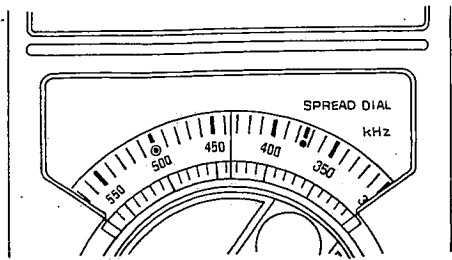
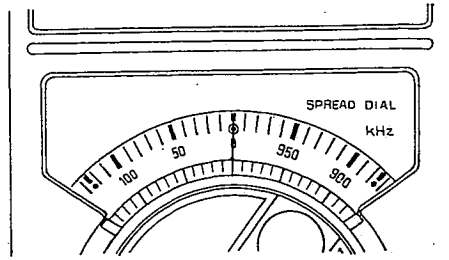

Fig. 24
Fig. 25
1. Set tuning capacitor to maximum capacity (minimum frequency), tuning knob to fully counter-clockwise, spread dial to 435 kHz, as shown in fig. 24. Then set tuning knob to clockwise and set spread dial to 0 kHz, as shown in fig. 25.